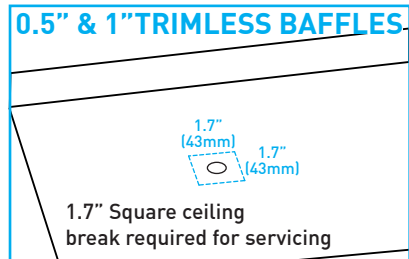

Fig.46
**Note:** Trimless 0.5" and 1" apertures require a 1.7" square ceiling break to service baffle, optic, LED, and driver **(Fig.46)**.